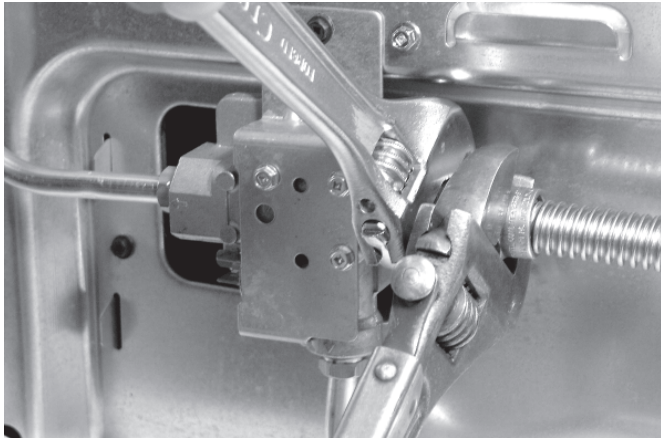

Fig. 10
- Tighten the gas supply fitting and/or appliance conduit to flare union adaptor on the right side of the pressure regulator (refer to Fig. 10) using **NO MORE THAN 15ft./lbs.** of torque. Be sure to **stabilize** the 1/2" flare union adaptor with an adjustable wrench before tightening the gas supply fitting and/or appliance conduit.